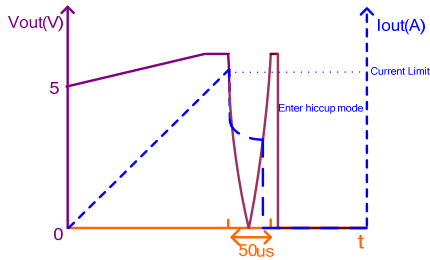

Figure 8: Over-Current Limit for CR Load
After the soft start finishes, if the USB output voltage is lower than 3.5V and lasts longer than 50µs, the MP5408M enters hiccup without having to wait 5ms (see Figure 8). This can prevent abnormal thermal rise during the constant resistor (CR) load over-current case.